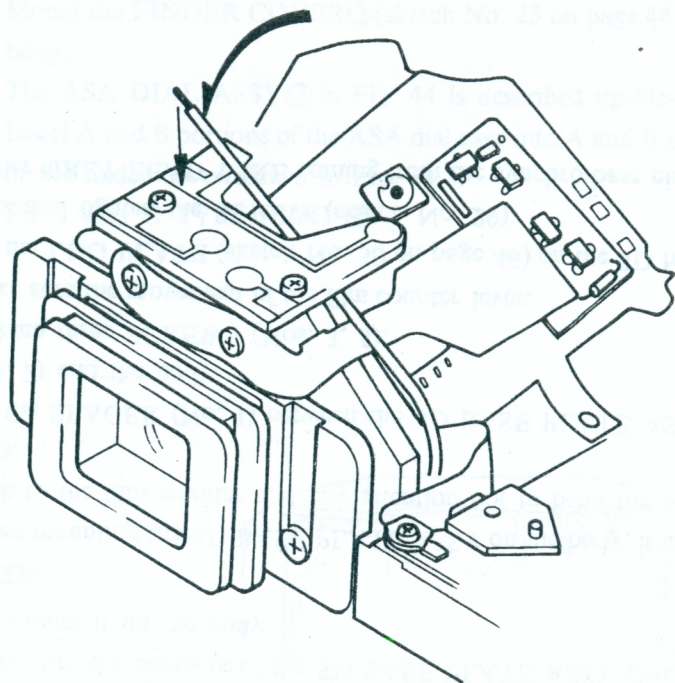

Fig. 37
- 2) Fix **BLACK LEAD WIRE** to the synchro base plate as shown in Fig. 37.